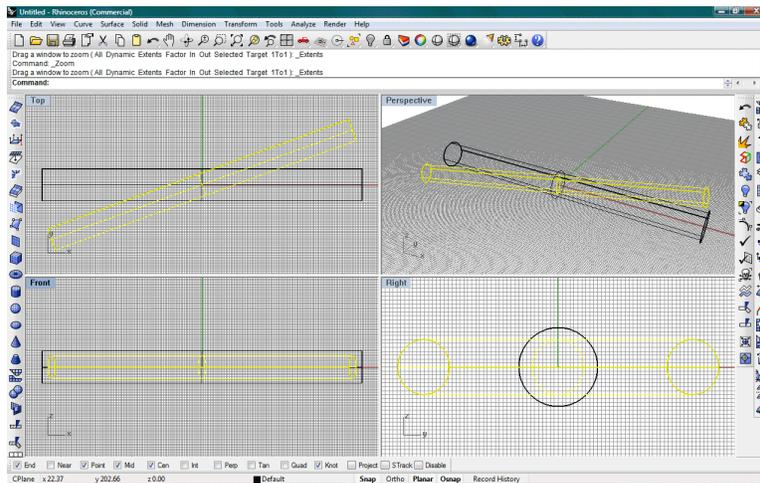

Figure 91: Two intersecting tunnels
42. While the cylinder is still selected, select **Transform | Rotate**. In the **Top** view, click on the **origin** of the coordinate system. Enter **20** followed by **<ENTER>** to complete the rotation of the smaller cylinder by **20°** around the **z-axis**. Right-click on the button marked **Show Objects** to render both cylinders visible (Figure 91).